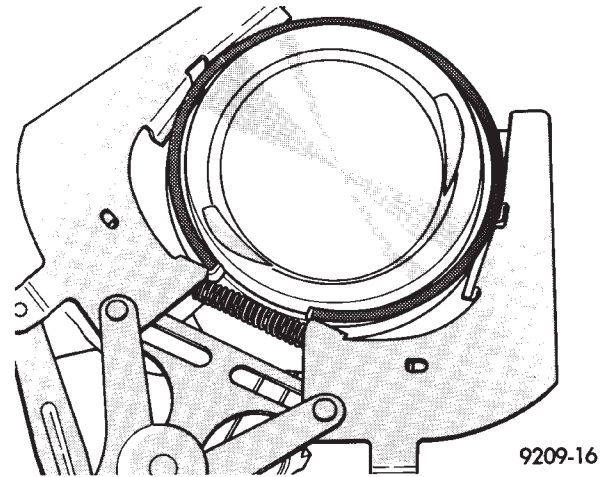

Fig. 58 Piston Rings—Removing and Installing
(1) Install rings on the pistons using a suitable ring expander (Fig. 58).
(4) Second piston ring gap should be positioned on the opposite side of the combustion chamber recess.
(5) Oil control ring gap to be located 30 degrees to the left of combustion chamber recess.
(6) When assembling pistons check that components are installed in the same position as before disassembly, determined by the numbers stamped on the crown of individual pistons. Engine cylinders are numbered starting from gear train end of the engine. **Face chamber recess side of piston towards camshaft.** Therefore, the numbers stamped on con rod big end should also face in the same direction. To insert piston into cylinder use a ring compressor as shown in (Fig. 58).